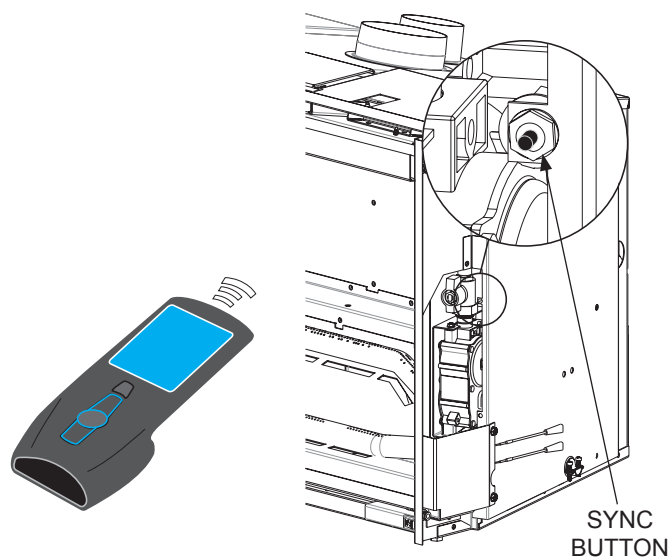

Figure 28
2. Push the sync button to the right of the insert. **See Figure 28.**